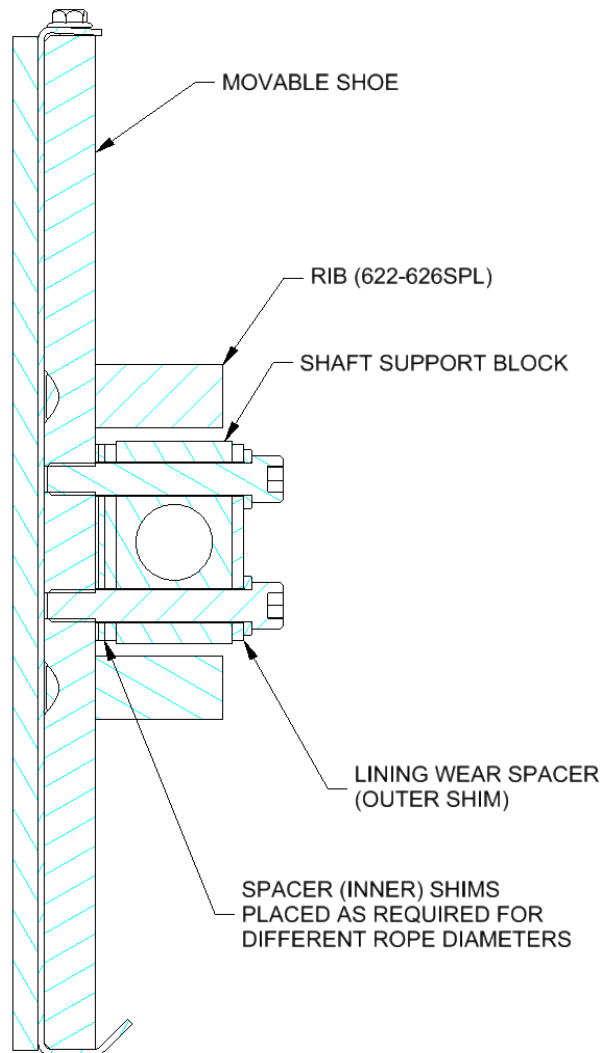

FIGURE 10
9. If time to wear-in seems excessive and the lining wear-in is not completed after the grooves in the linings have reached between 1/32” to 1/16” deep, spacer shims (**Figure 10**) can be moved from between the shaft support blocks and moveable shoe to the outside of the support block to allow the rotating shaft to completely turn the corner and move up the cam. Refer to **Chart 3** for initial spacer and shim set-up. **Note: Before changing spacers, install security set screws to prevent unintended “ROPE GRIPPER®” activation**, which could lead to severe personal injury and/or damage to the unit.
- If lining wear is not excessive (less than 3/16"), the 1/8" Lining Wear Spacer Shims (**Figure 10**) are to be re-located between the shaft support blocks and the moveable shoe. Remove the bolts that hold the blocks to the movable shoe and place the lining wear spacer shims under the blocks. Re-install and tighten bolts. Addition of the shim decreases the shoe clearance. The rotating shaft is now toward the bottom end of the cam when gripping the ropes.